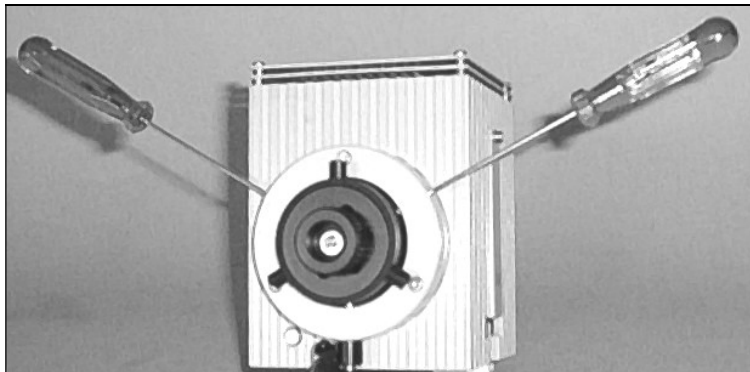

Fig. 19: Centering the reflector.
- Insert the centering keys into the adjustment screws for the lamp reflector on the back of the lamphouse (Fig. 19).